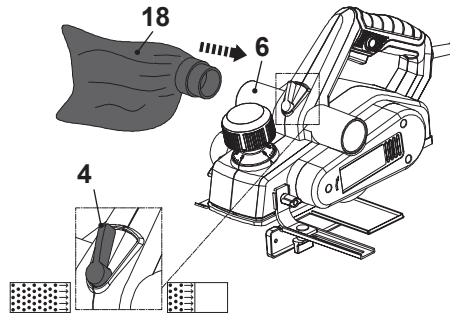

Fig. 1
1. Align the connector of the dust bag (18) to the dust extraction outlet (6) on either side of the product (depending on application) and insert it all the way to the stop (Fig. 1).
2. Adjust the dust extraction crossover lever (4) to change the airflow right/left depending on the side that is chosen.
3. Pull the connector out in a twisting motion to remove the dust bag (18).